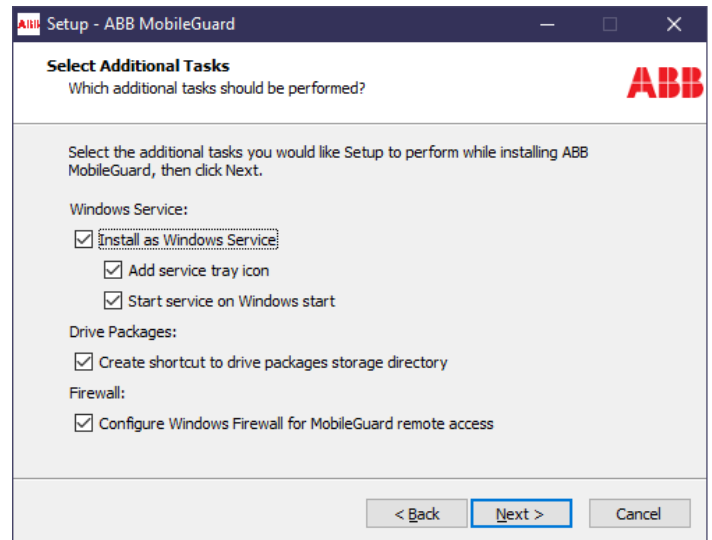

Figure 2 Setup Prompt for Services and Firewall Exception
- 3 At the first prompt, set the services to be installed by placing a checkmark in the corresponding box (see Figure 2):